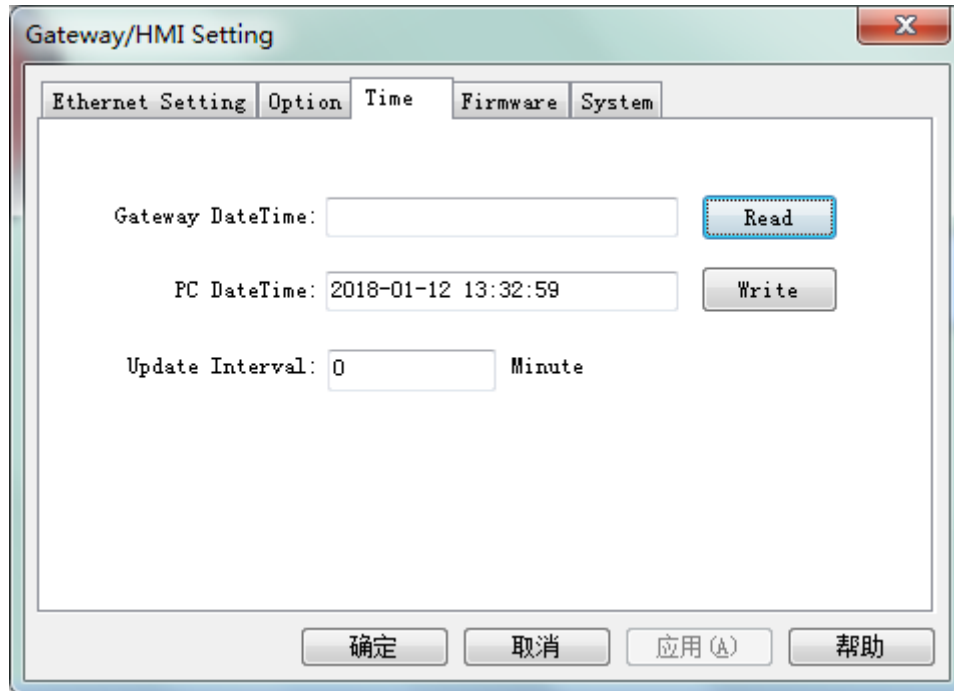

Figure 4-13-4 Time
**Time:** Hardware gateway can read the current system time, and if time does not match the normal time, you can click "Read" refresh function hardware gateway system, automatic update cycle refers to the time of the system hardware gateway update interval of terminal equipment on the bottom layer, as shown in figure 4-13-4.